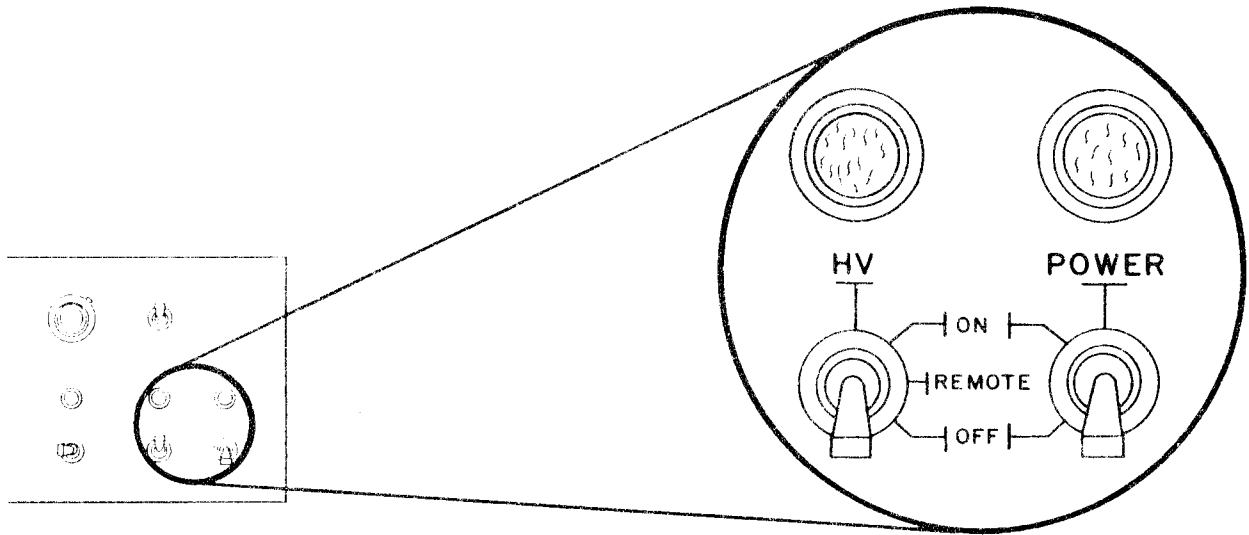

Figure 81. POWER and HV Switches OFF
- a. Ensure the POWER and HV switches are set to OFF (see Figure 81).